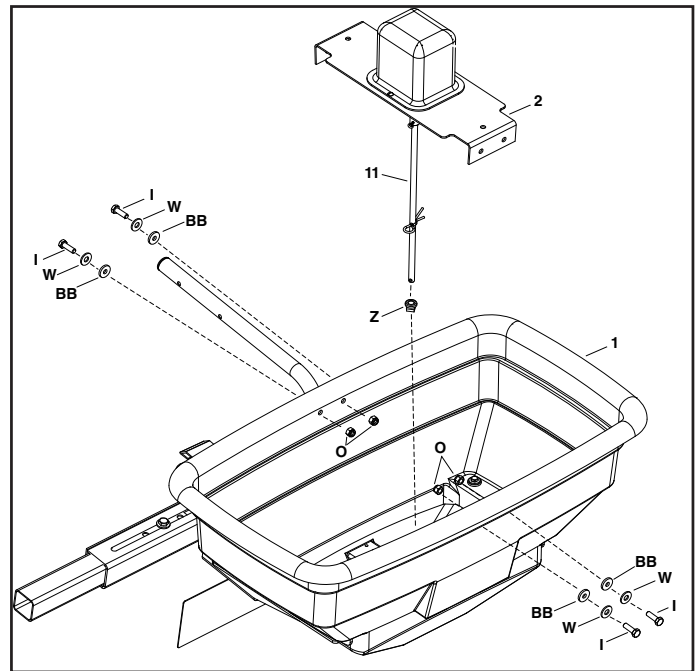

FIGURE 15
STEP 14: (SEE FIGURE 15)
- Install the delrin bushing (Z) into the bottom of the hopper (1)
- Take the motor mount assembly and place it inside the hopper with placing the impeller shaft (11) through the delrin bushing (Z) and hopper (1). Make sure the motor harness is on the side closet to the mower.
- Line up the holes on the motor mount bracket (2) and the hopper (1).
- Install four hex bolts (I), washers (W), and nylon washers (BB) from the outside of the hopper (1) through the motor mount bracket (2).
- Secure the four hex bolts (I) with four nylock hex nuts (O) and then tighten hardware.